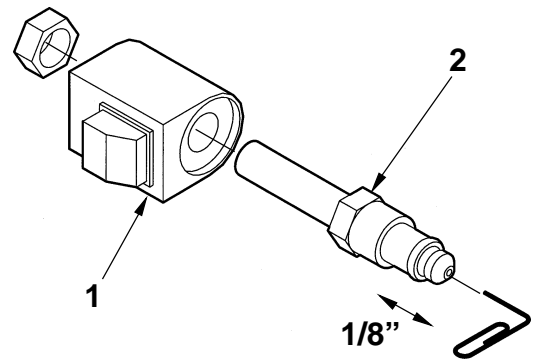

FIG. 2
2. Check the Valve Stem by removing the Coil Assembly, **(Item 1, FIG. 2)**. Unscrew the Valve Stem, **(Item 2, FIG. 2)**, from the Pump. Push on the plunger that is located inside the Valve Stem by inserting a paper clip in the end. If the Plunger does not move freely approximately 1/8", replace the Valve Stem.